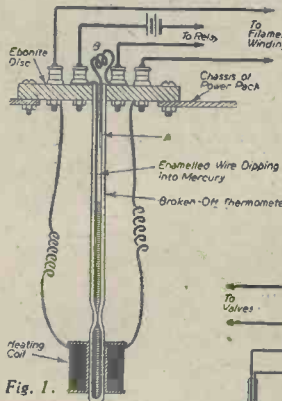

Fig. 1.
**T**HE accompanying sketches show an inexpensive thermal-delay switch I have recently made, which works satisfactorily. The main component is a cheap mercury thermometer with a broken-off stem. A piece of enamel-covered wire, bared at one end, is pushed as far down the bore of the glass tube as possible. It should be well covered by the mercury. Another wire, with bared end, is pushed down as far as A (Fig. 1). The loop B is to allow adjustment of the height of A above the mercury. These two thin wires are connected
"I tried a number of different ways of connecting it to the crystal detector, phones and 0.0005 mfd. tuning condenser, until quite by accident I got the best results by using the connections shown on Fig. 1. From the technical point of view it appears to